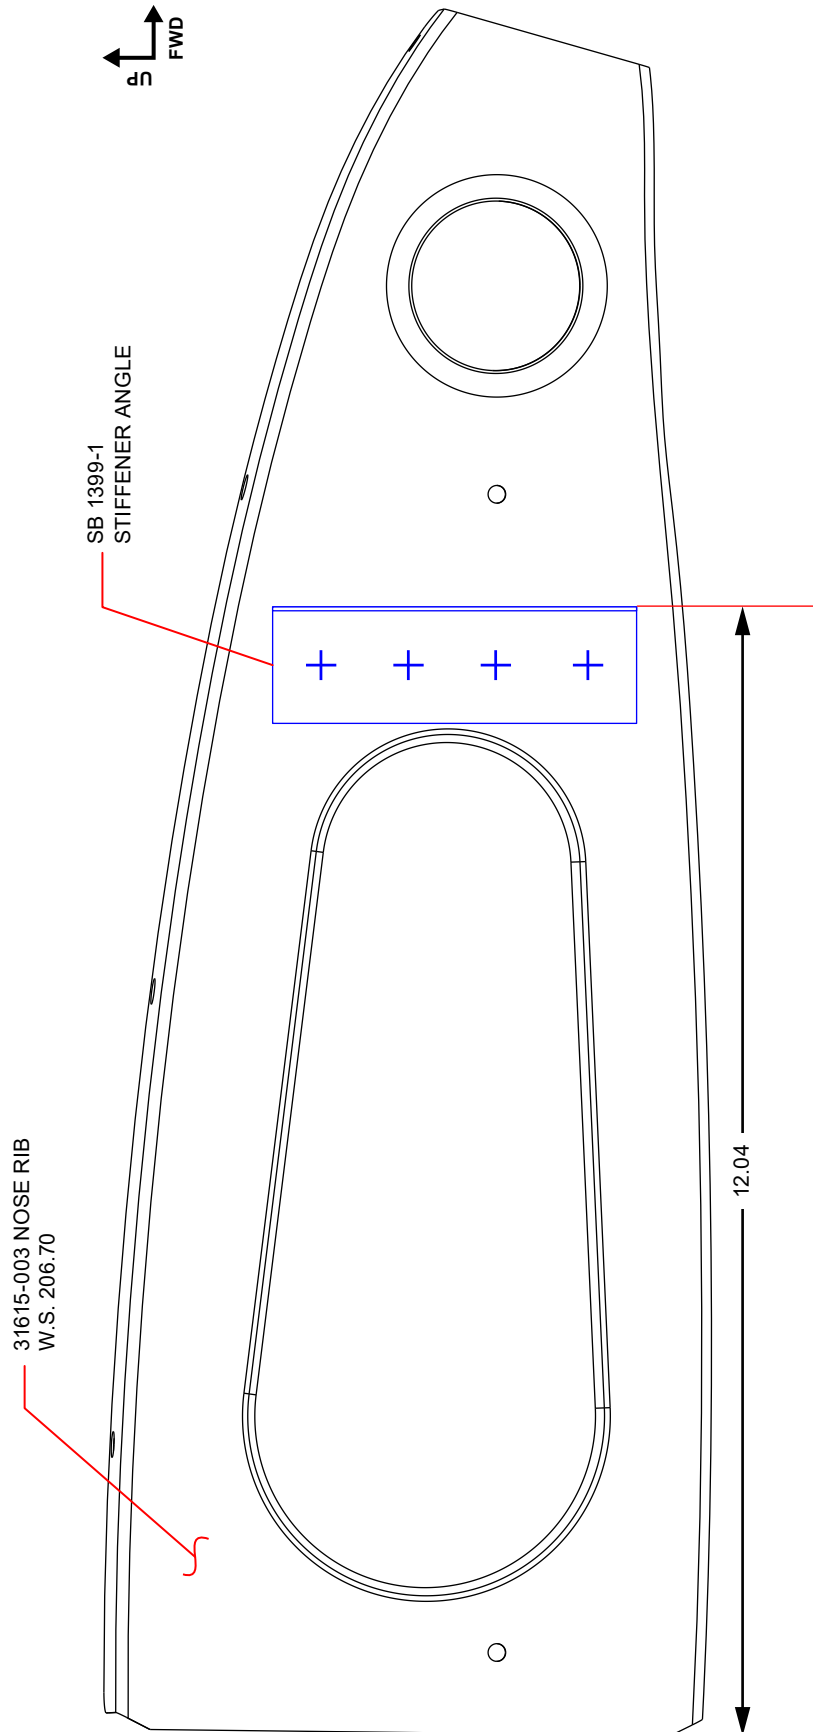

Figure 3
5. Install the SB 1399-1 Stiffener Angle as shown in Figure 3.
- b. Install four (4) MS20470AD3 series rivets (aka "BJ 3") to secure the SB 1399-1 Stiffener Angle to the outboard side of the 35615-003 WS 206.70 Nose Rib. Procure rivets locally.